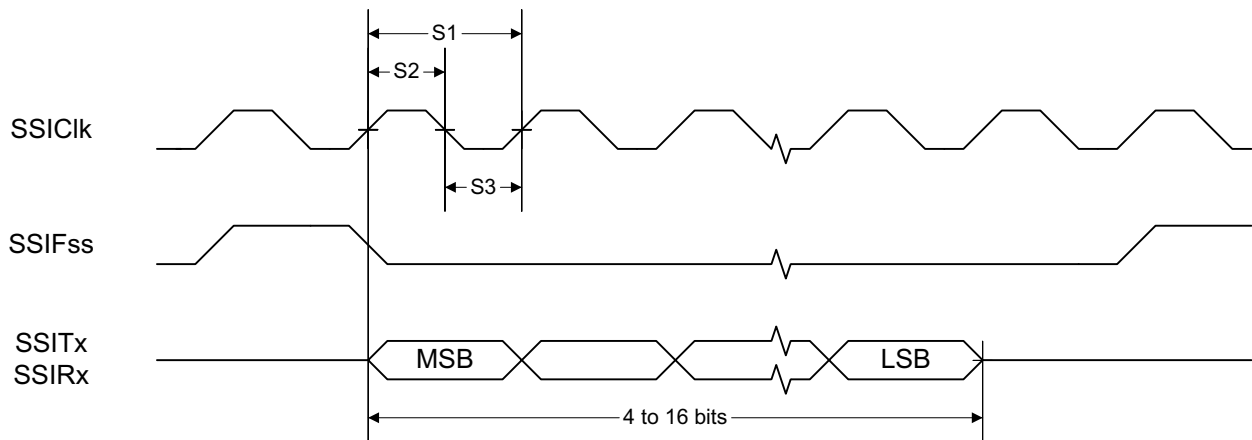
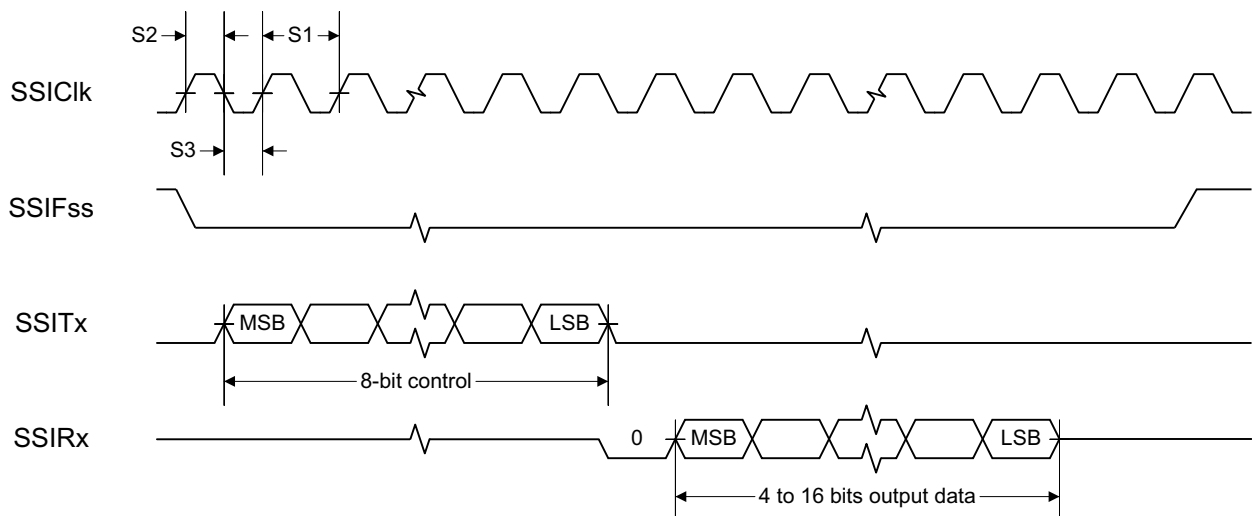
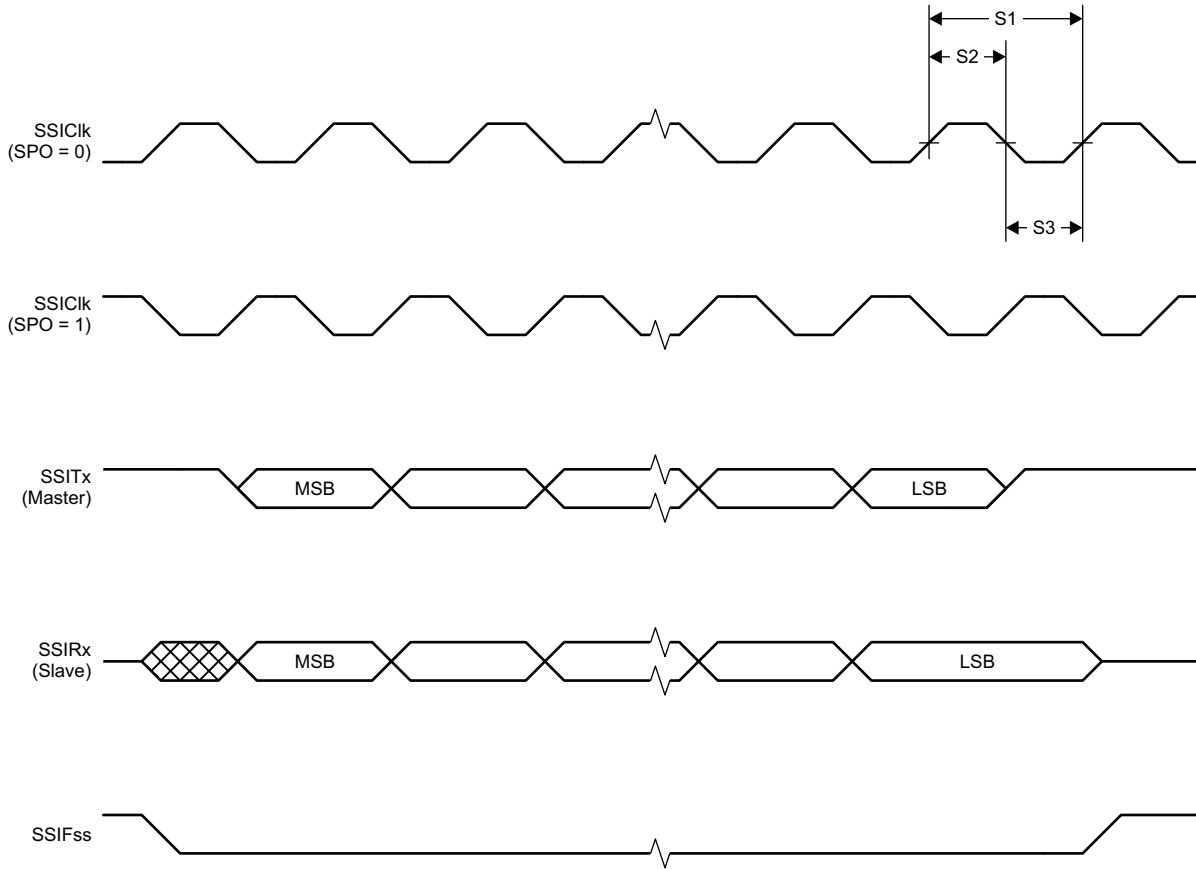

Figure 7-1. SSI Timing for TI Frame Format (FRF = 01), Single Transfer Timing Measurement
Figure 7-2. SSI Timing for MICROWIRE Frame Format (FRF = 10), Single Transfer
Figure 7-3. SSI Timing for SPI Frame Format (FRF = 00), With SPH = 1
- (1) Refer to SSI timing diagrams Figure 7-1, Figure 7-2 and Figure 7-3.
(2) When using the TI-provided Power driver, the SSI system clock is always 48 MHz.